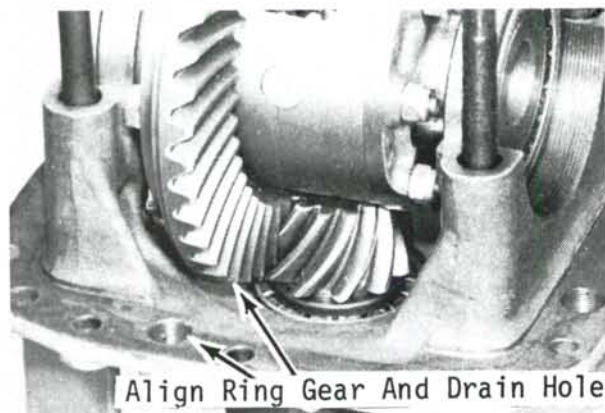
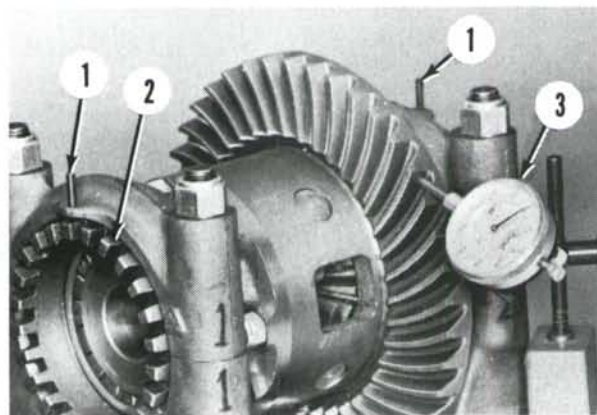

Fig. 29—When installing differential unit in carrier, make sure ring gear is on same side as drain hole in carrier.
Fig. 30—Dial indicator probe should be against outer tip of ring gear tooth when measuring backlash.
36. DIFFERENTIAL CARRIER BEARINGS AND BEVEL GEAR BACKLASH. Pinion shaft protrusion and bearing preload must be properly set before adjusting differential carrier bearings. Install differential unit in carrier housing making certain ring gear is aligned with drain hole in carrier as shown in Fig. 29. Install bearing support caps, but do not tighten retaining nuts securely at this time. Install bearing adjuster rings and turn adjuster ring on ring gear side of differential until ring gear contacts pinion gear. Then turn adjuster ring on side opposite ring gear until all bearing end clearance is removed, but do not preload bearings. Mount dial indicator as shown in Fig. 30, then hold pinion shaft and move ring gear to check backlash. Turn adjuster rings as needed to move ring gear sideways to obtain recommended backlash of 0.15-0.25 mm (0.006-0.010 inch). Loosen adjuster ring one notch at a time and tighten opposite adjuster ring the same amount when setting backlash.
After bevel gear backlash is properly adjusted, turn adjuster ring on each side of differential clockwise two notches to provide recommended bearing preload. Tighten bearing cap mounting nuts to 210 N·m (155 ft.-lbs.) torque, then recheck for correct backlash. Drive roll pin (1—Fig. 30) into notch of each adjuster ring to secure adjustment.